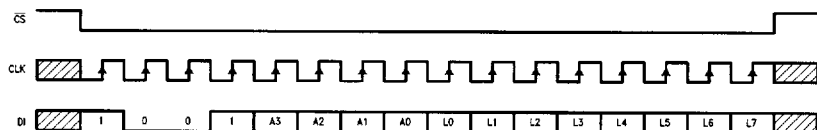

FIGURE 3. Timing Diagram for Write One Limit
Figure 3 shows the timing diagram for writing one limit. After  $\overline{CS}$  is brought low, the input word (DI) is clocked in starting at the first rising edge of CLK. Taking  $\overline{CS}$  high after the MSB (bit L7) of the limit data is loaded completes the write operation.